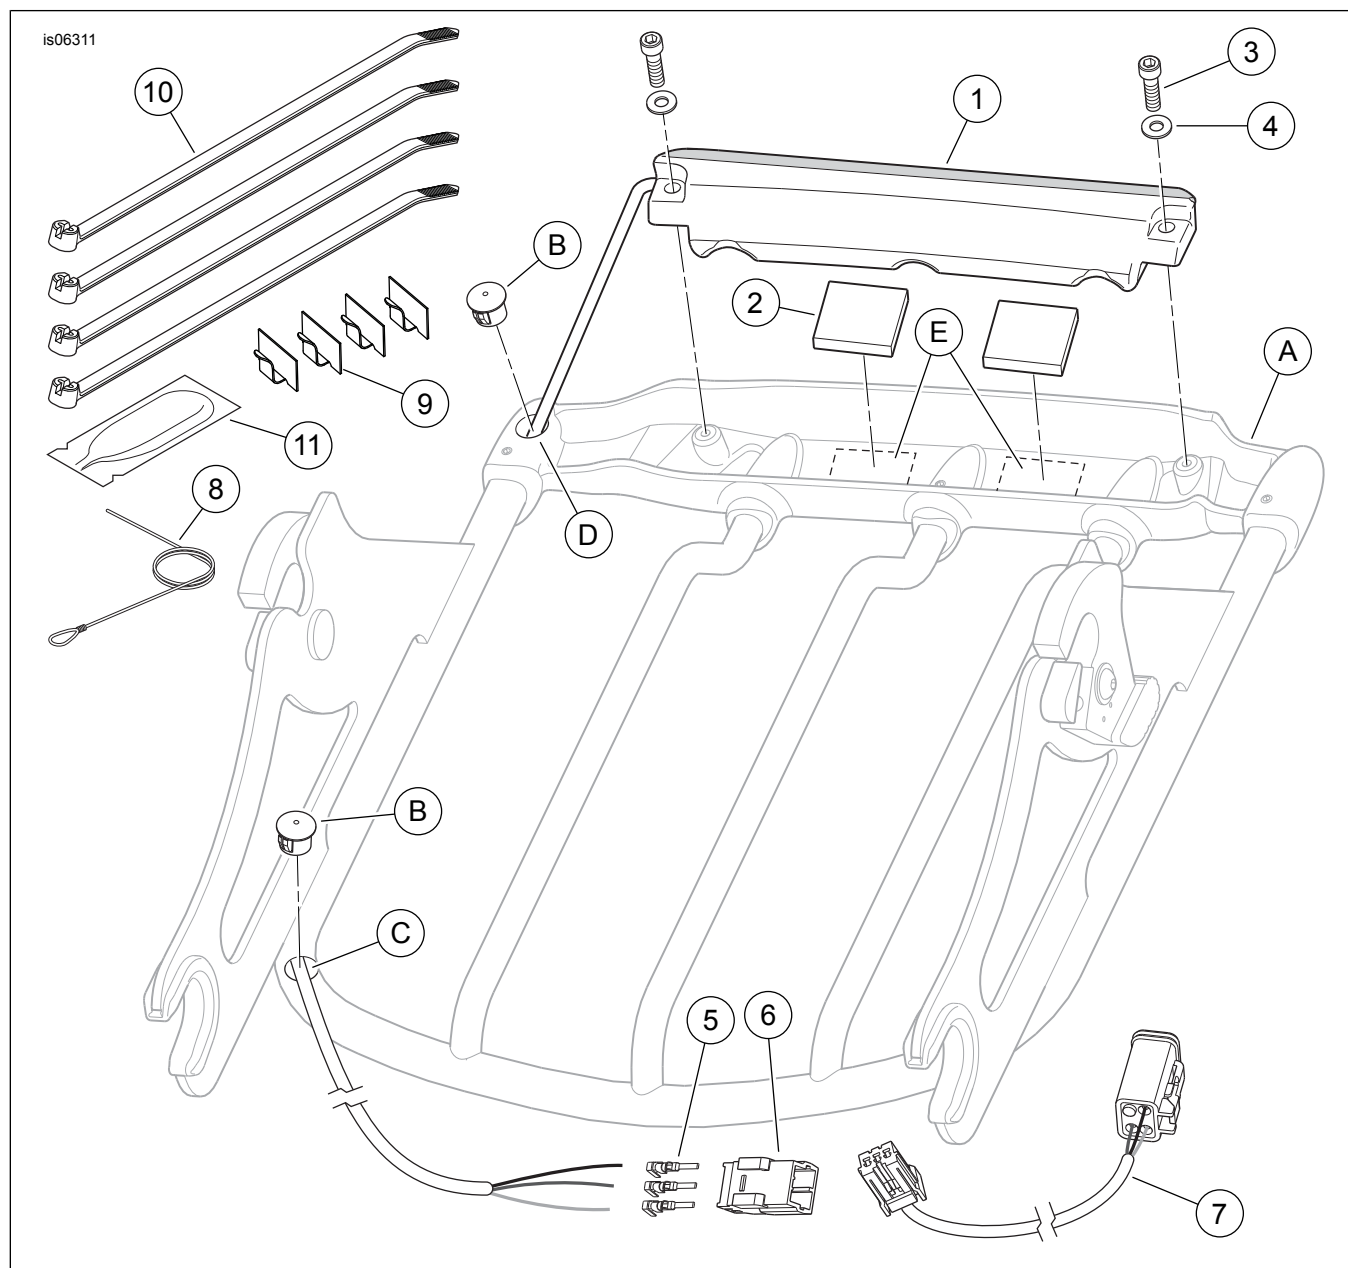

Figure 3. Service Parts, Air Wing Detachable Luggage Rack Light Kits
See Figure 3 and Table 1.
1. If not already in place, install the Detachable Docking Hardware Kit per the instructions in **that** kit. See Figure 3. If installed, remove the Air Wing Detachable Luggage Rack (A) from the vehicle and place it upside-down on the work surface.
2. Remove the black plastic plugs (B) from the holes at the front and back of the left side rail.
3. Insert the loop end of the nylon monofilament guide wire (8) through the forward hole (C) in the rail, and out through the rear hole (D). Allow the straight end to remain outside the forward hole.
4. Firmly attach the three wires of the light assembly (1) to the loop of the guide wire. Carefully pull the straight end of the guide wire to draw the wires and shrink tubing into and through the rail, and out the forward hole. Detach the light wires from the guide wire.
6. Remove the liner (4) from the adhesive backing on **one side** of a pad (2). Carefully position the pad to the top surface of the light (1), between the clearance notches, and press firmly into place. Repeat with the second pad.
7. See Figure 3. Remove the remaining liner from both pads, and install the light to the rear cross bar with two socket head screws (3) and flat washers (4), drawing the wiring out the forward hole (C) as the light is set in place. Tighten the screws securely.